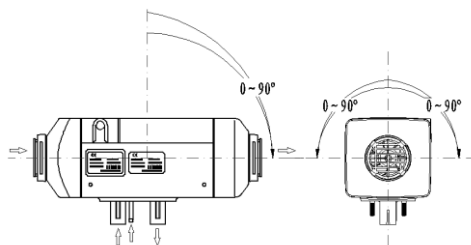

Fig.11
4.2.5 Direction for installation of the heater is shown in Fig. 11. Attention must be paid to that the inclination angle shall not exceed the limit, or normal operation will be affected.